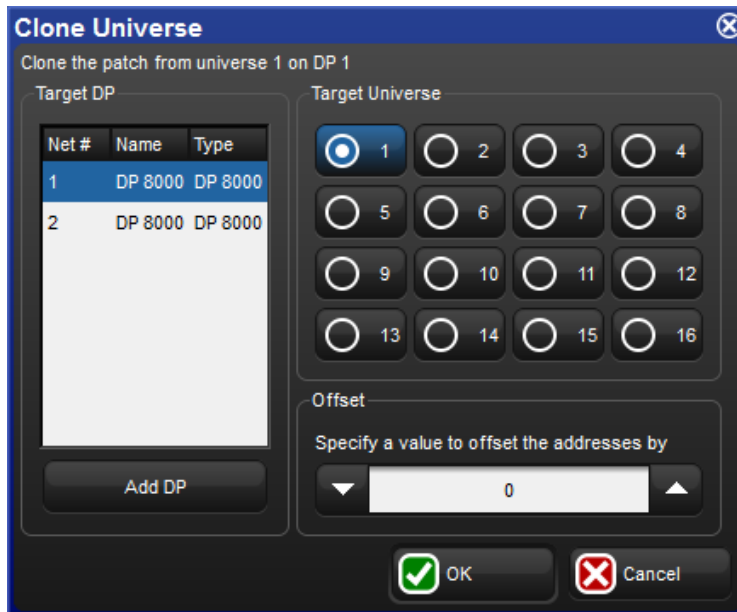

Figure 5.6. The Clone Universe window
3. Press Clone Universe. The Clone Universe window will open; see *Figure 5.6, “The Clone Universe window”*.